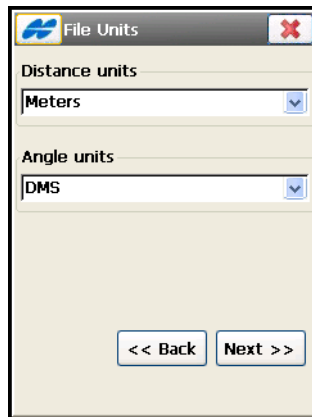

Figure 4-14. File Units
- **Select File Units** – when this checkbox is selected, the **Next** button opens the **File Units** screen that allows selecting units for the data exported (Figure 4-14 on page 4-14).
- **Select File Units** – check mark this option to select units for the data exported (Figure 4-14 on page 4-14). Depending on the data and format selected, you can set only distance, or distance and angle units if they are available for setting.